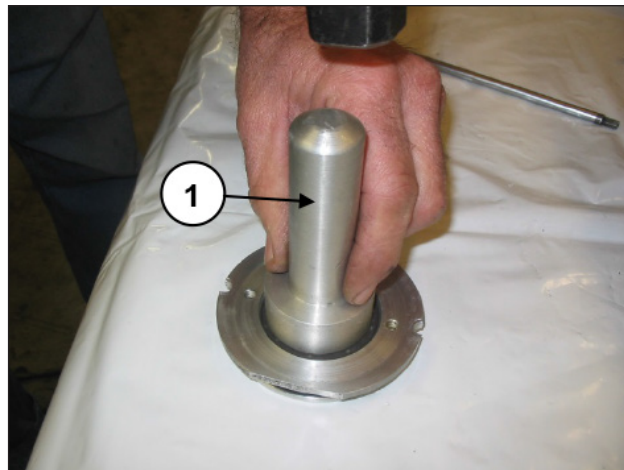

Fig. 117
Mount the oil seal in the oil seal cover (pos. ①, Fig. 117) using a buffer code 27910900.